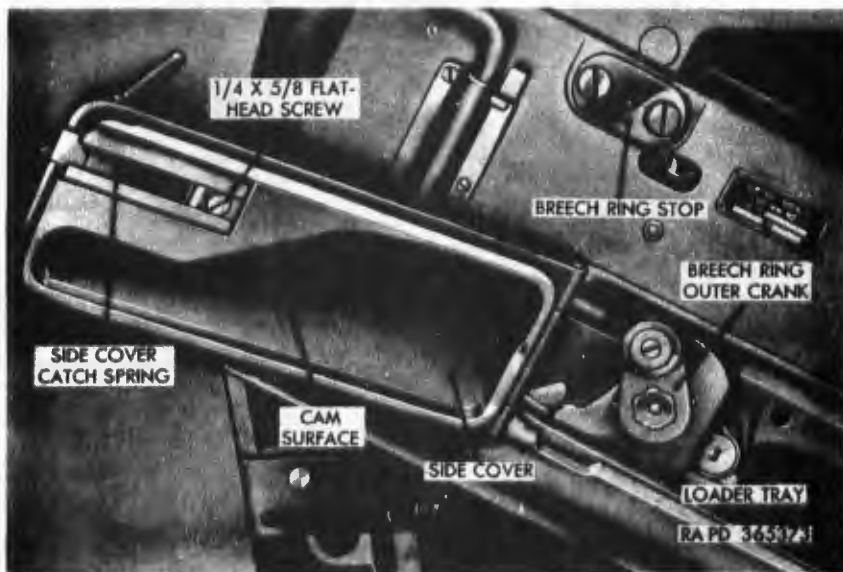

Figure 348. Side cover—open position.
- (6) The side cover (fig. 348) has a cam surface on the inside which operates the breech ring outer crank assembly to
- (1) Maintenance of the breech casing consists chiefly of cleaning, lubricating and replacement of worn or broken parts. In order to perform these operations, it is necessary to remove the following :
- (2) Clean all interior surfaces with rifle-bore cleaner, making certain that all traces of dirt, rust, grit, or other foreign matter have been removed. Wipe dry and oil as prescribed by lubrication order LO 9-7218 (par. 90).
- (3) Examine casing for general condition, broken, loose, or missing parts.
- (4) Examine sliding and operating surfaces in the casing for burs or other raised metallic surfaces. Remove such burs as may be removed with crocus cloth, otherwise refer to ordnance maintenance personnel.
- (5) Check functioning of side cover catch spring (fig. 348). If deformed, cracked, or broken, remove flat-head screw and replace spring. Install $\frac{1}{4}$ x $\frac{5}{8}$ flat-head screw to retain spring.
- (6) Check functioning of top cover catch spring by operating the top cover catch. If spring is deformed, cracked, or broken, remove four flat-head screws which secure bracket to top cover and replace spring. Install four No. 10 x $\frac{1}{2}$ flat-head screws.